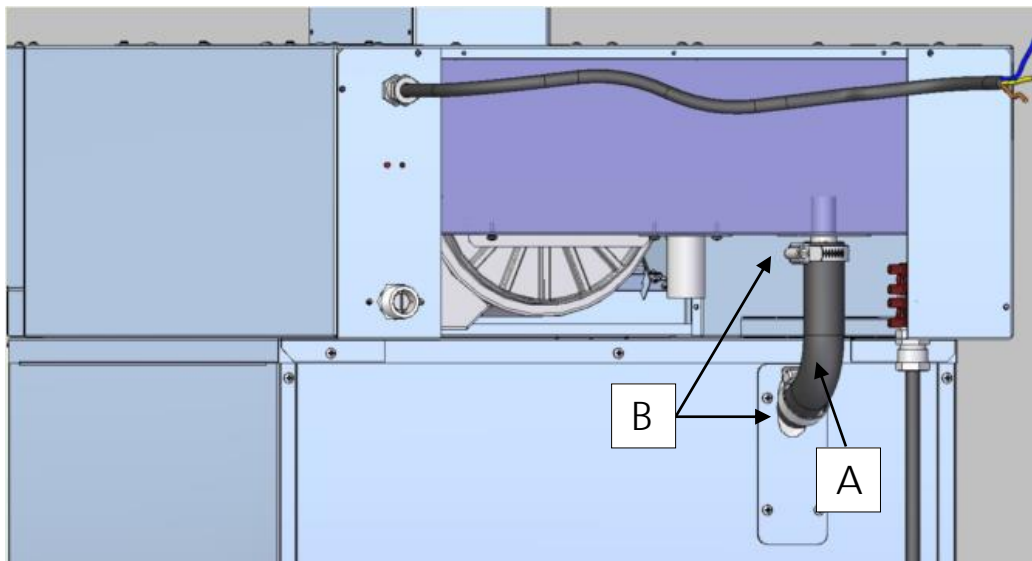

Fig. 8
*Lay the hood with no back onto the oven. Fit the suitable rubber pipe "A" supplied between the smoke/steam exhaust pipe of the oven and the smoke/steam inlet pipe of the hood, and fasten it with the 2 metal straps "B" supplied. (Fig. 8)*